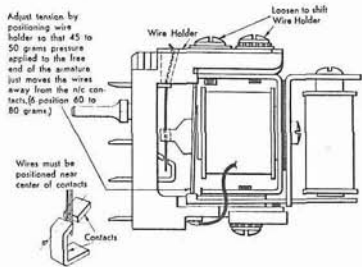

Figure 23. Adjustments 3 and 4
- Figure 23. With the contact wires in place see that they are
4. Figure 23. Adjust tension on the contact wires by shifting the wire holder so that a 45 to 55 gram pressure applied at the center of the free end of the armature just moves the wires away from the contacts on the normally closed side. The six position latch type relay will require 60 to 80 grams pressure.